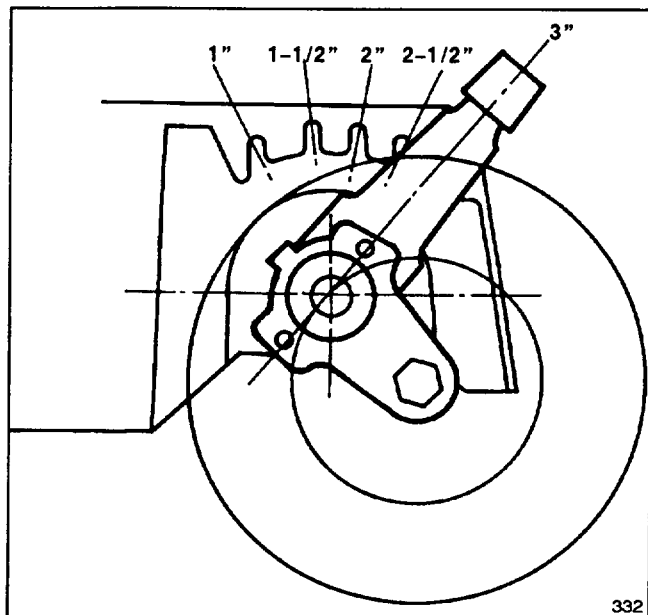

Figure 9
5. **MANUAL STARTING** (Models 16400 & 16401)—Move throttle to CHOKE. Hold control bar against handle. Pull fingertip starter out until positive engagement results (Fig. 9); then pull vigorously to start the engine. Regulate throttle as desired when engine starts.
Five notches cast into the housing represent each graduated height-of-cut setting (Fig. 9).